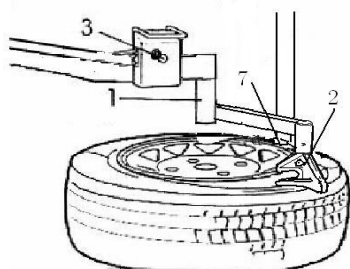

Fig 15
- a- Close the demount/mount head (7, Fig15) near from the tire as the manual stated. Move the rotating arm (1, Fig 15) to its working position.
- b- Move the tire pressing head (upper) (2, Fig 15) near from the demount/mount head, down the rise-fall